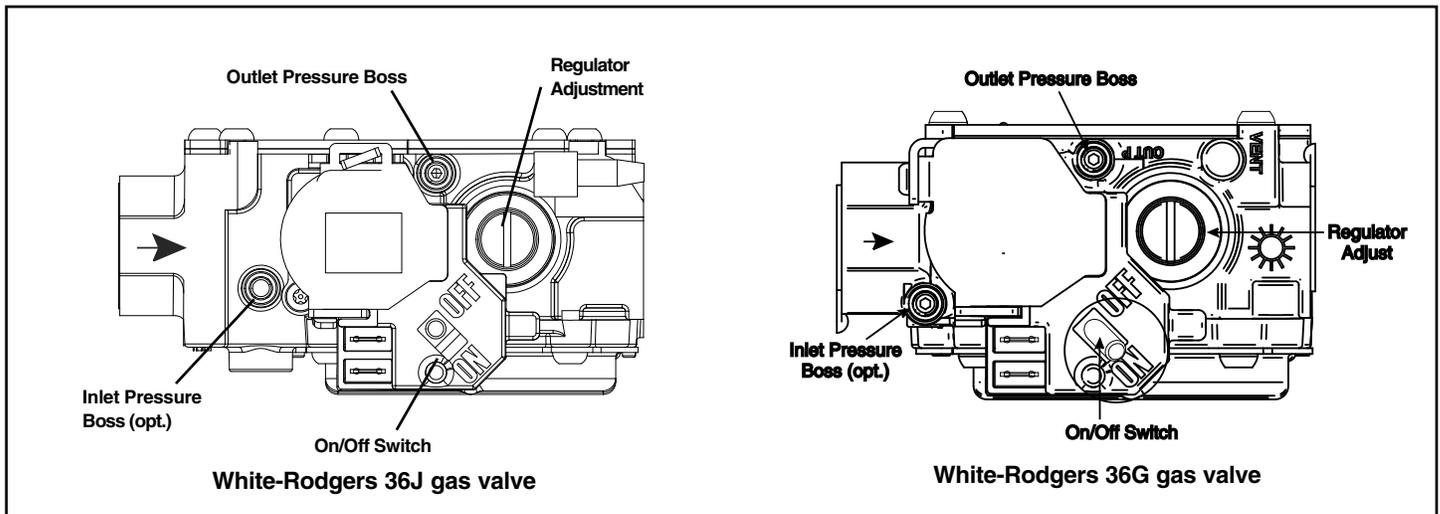

FIGURE 34
2. Attach a manifold pressure gauge with flexible tubing to the outlet pressure boss marked "OUT P" on White-Rodgers gas valve model 36G or 36J. See Figure 34 for White-Rodgers gas valve model 36J and model 36G.
For complete shutdown: Flip the switch on the main gas valve to the “OFF” position (See Figure 34). Disconnect the electrical supply to the unit.